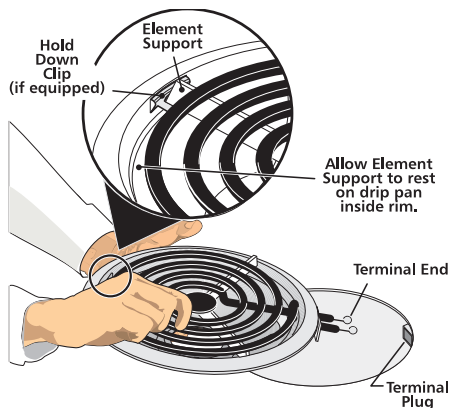

Figure 15: Coil and drip pan removal
1. Slide the terminal end on the element through the opening in the drip bowl (see Figure 15).